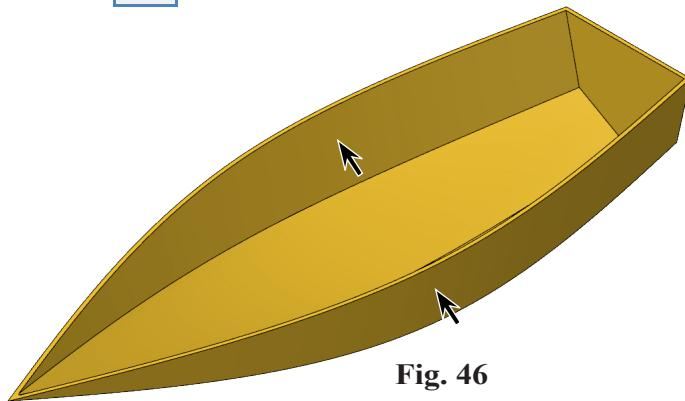

Fig. 46
Step 3. Click **inside hull** to select shell feature and click **outside hull** for solid feature **Fig. 46**. Press Escape.